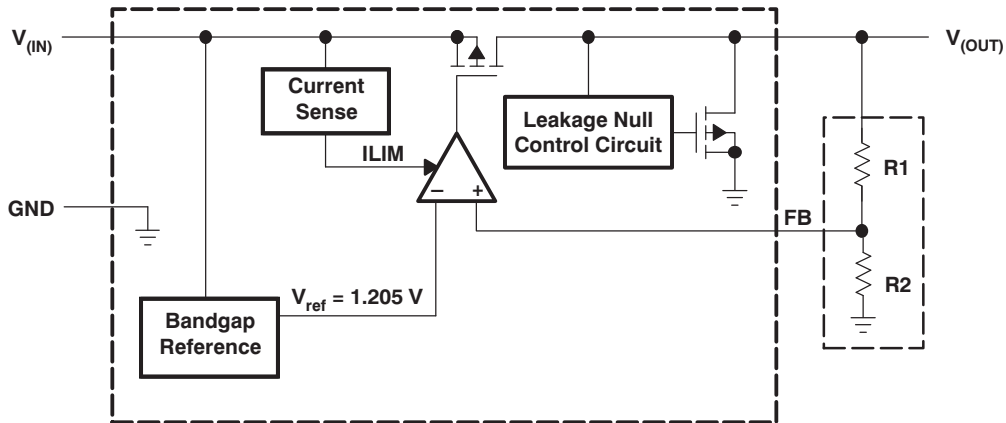

Figure 1. Functional Block Diagram—Adjustable Version
(1) Minimum $V_{IN} = V_{OUT} + V_{DO}$ or the value shown for *Input voltage* in this table, whichever is greater.
(2) See Figure 1. The TPS715xx family employs a leakage null control circuit. This circuit is active only if output current is less than pass FET leakage current. The circuit is typically active when output load is less than $5\text{ }\mu\text{A}$, V_{IN} is greater than 18 V, and die temperature is greater than 100°C .